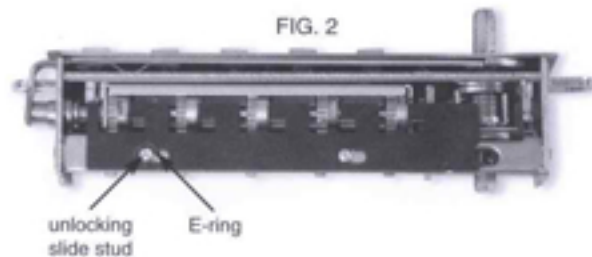

FIG. 2
Remove the combination lock housing from your application (See Figure 1). Remove the back cover marked "ILLINOIS LOCK COMPANY" by lifting up at the staked joints at both ends with a screwdriver or other tool. The lock now looks like Figure 2.
STEP 1 (see Figure 2)